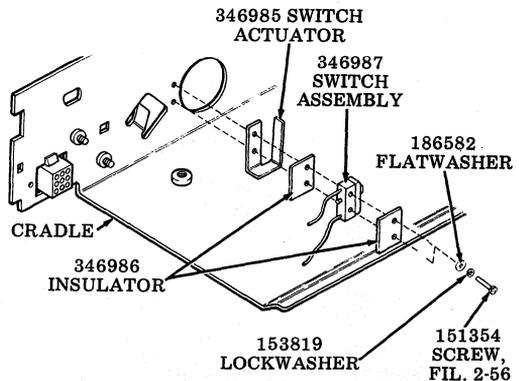

Fig. 10—Installation of Switch Actuator
2.13 Assemble the 346985 switch actuator, the two (2) 346986 insulators and the 346987 switch assembly to the cradle using two (2) 186582 flat washers, two (2) 153819 lockwashers and two (2) 151354 fillister screws. Do not fully tighten screws at this time. See Fig. 10.
2.15 With the flat of the cam located in the upward position (keyboard "OFF" position), fully tighten the two (2) 151354 fillister screws. See Fig. 10.